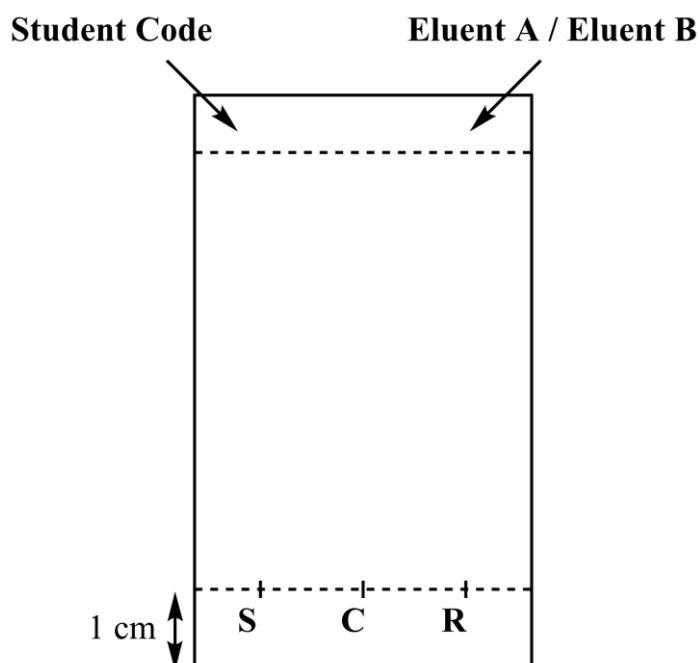

Figure 3. TLC plate preparation
3. **Prepare your TLC plate.** Use a pencil to **draw** carefully the start line (1 cm above the bottom of the plate) and **mark** the positions in order to spot the 3 samples. **Label** them **S** (Starting material), **C** (Crude product) and **R** (Recrystallized product), as described in *Figure 3*. On the top left of the plate, **write** your **Student Code**. On the top right of the plate, **write** the eluent you use (first **Eluent A**, then **Eluent B**). **Spot** the three samples on the plate, using capillary spotters.